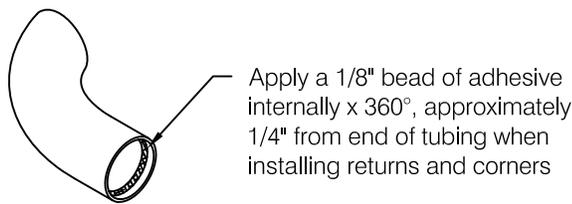
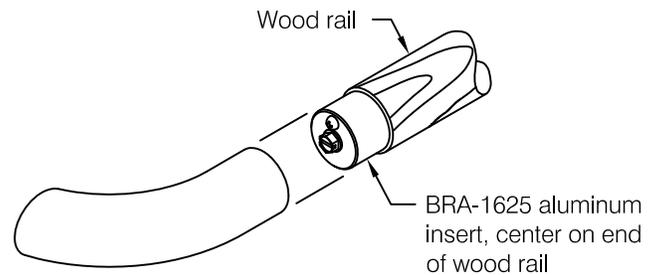

fig 5
fig 6
- Step 6:** Install BR-1625 wall returns and one side of IOC-1650 corners by applying a 1/8" bead of ADH-50 adhesive inside the accessory opening, see **fig 5**. With adhesive in place slide return or corner accessory over BRA-1625 insert and align with wall construction, see **fig 6**.
- Important:** Be sure to install corner accessories between rails before securing rail at both sides of corner. Use adhesive to install corner accessories as noted in **step 6** for handrail returns, see **fig 5**.